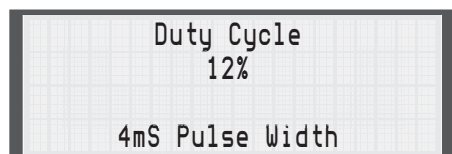

Fig. 5.13
6. Press the Duty Cycle key and use the Arrow keys to set the duty cycle percentage you want to use (**Fig. 5.13**). If you are unsure, set the duty cycle to 12%. Press the Enter key.